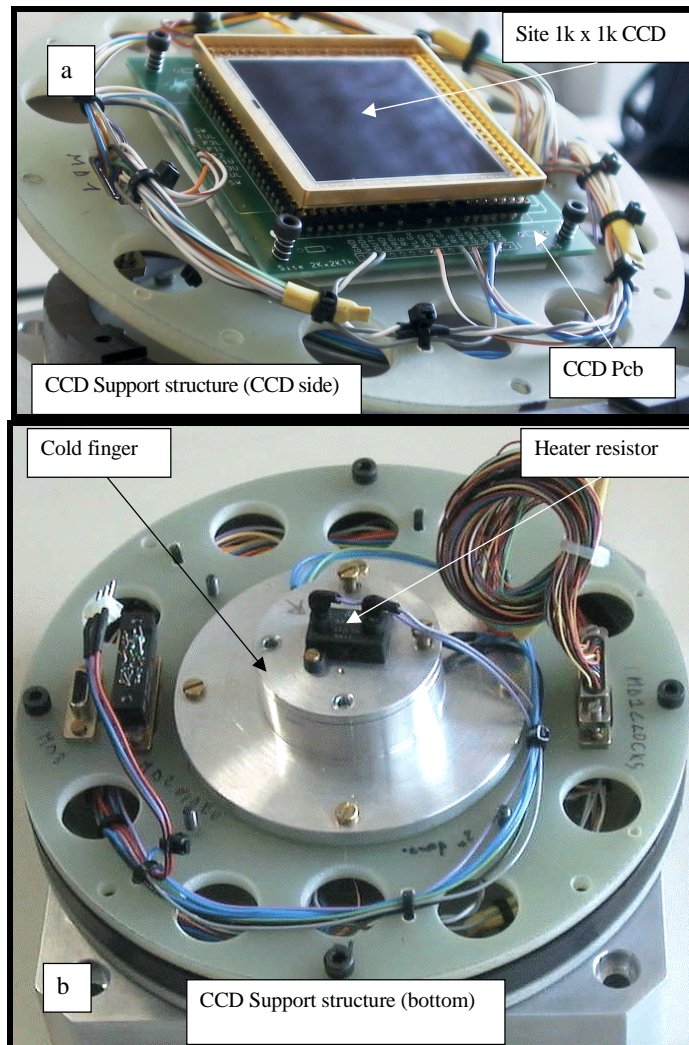

Fig. 7a, 7b Support structure for the CCD
- an insulating material to hold the PCB and the cold finger (glass epoxy), see Fig. 7a